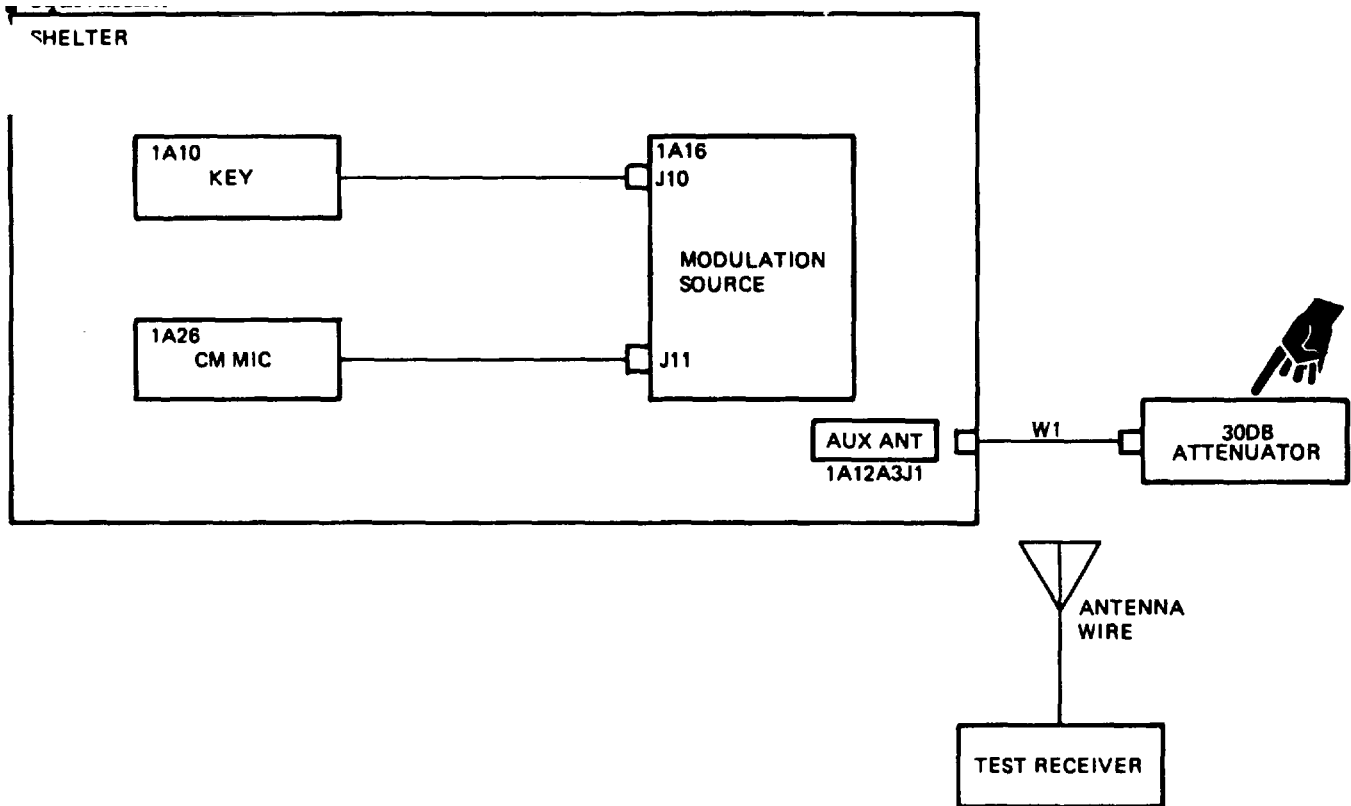

Figure 4-13. Test setup, modulation testing.
- (1) Connect equipment as shown in figure 4-13.
- (11) Set pan indicator controls as follows:
- (12) Connect one end of wire antenna to test receiver antenna input terminals; place other end of wire antenna in vicinity of 30 dB attenuator connected to auxiliary antenna connector (fig. 4-13).